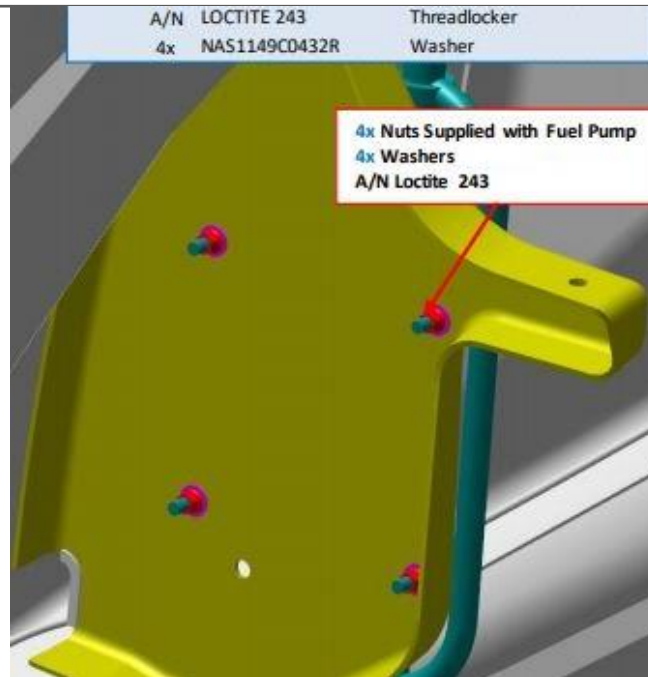

Figure 9: Install washers, nuts and Loctite 243 on to the mount studs
5. Apply Loctite 243 to studs and torque 4x nuts and 4x washers to 30-35 inch-lbs. Apply torque stripe as shown in figure 9.